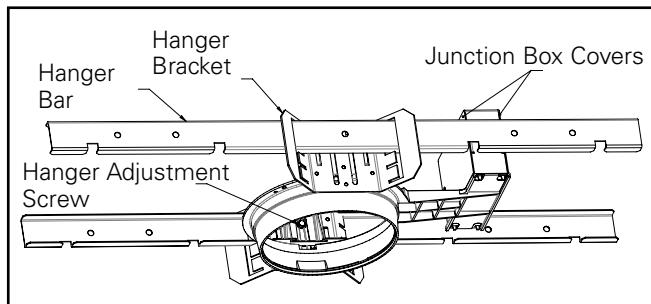
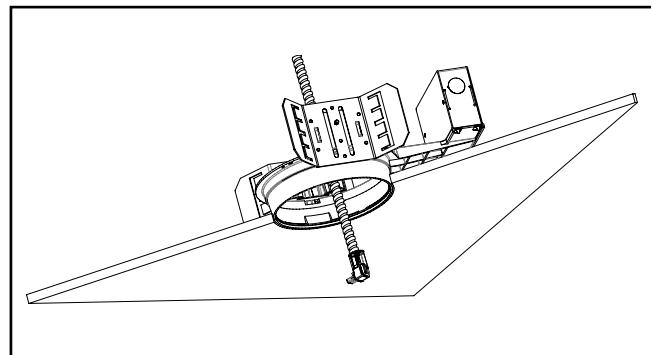

Figure 1
Figure 2
2. Hanger Adjustment Screw: Adjust hanger adjustment screws (Figure 1.) so bottom of plaster ring is flush with finished ceiling line. (Figure 2.) Hanger bracket is reversible for total adjustment of 5".